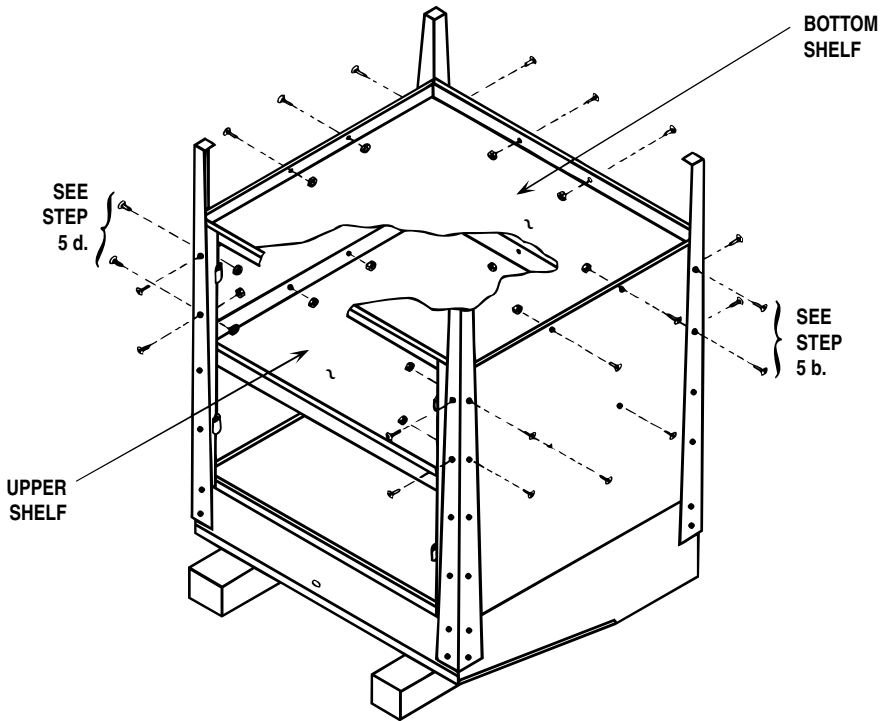

FIGURE 9
5. See Figure 9 and . . .
- a. Insert upper shelf (Item 13) and fasten into place with six (6) screws and nuts (Items 5 & 6).
- b. Fasten side and back panels to REAR LEGS ONLY with eight (8) screws and nuts (Items 5 & 6).
- c. Insert bottom shelf and fasten into place with six (6) screws and nuts (Items 5 & 6). **NOTE:** Tilt shelf between side panels and pull upward to align shelf with holes in side and back panels.
- d. Fasten door frame and side panels to front legs with eight (8) screws and nuts (Items 5 & 6).